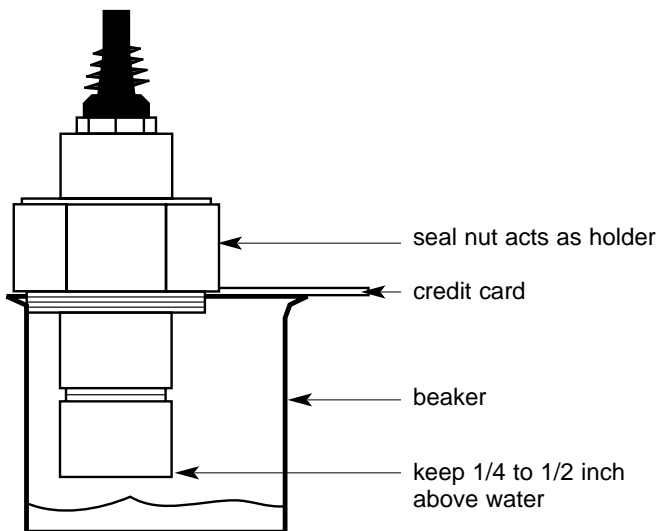

FIGURE 28 D.O. SENSOR SETUP FOR CALIBRATION
3. Take the sensor and suspend it above water. See Figure 28.